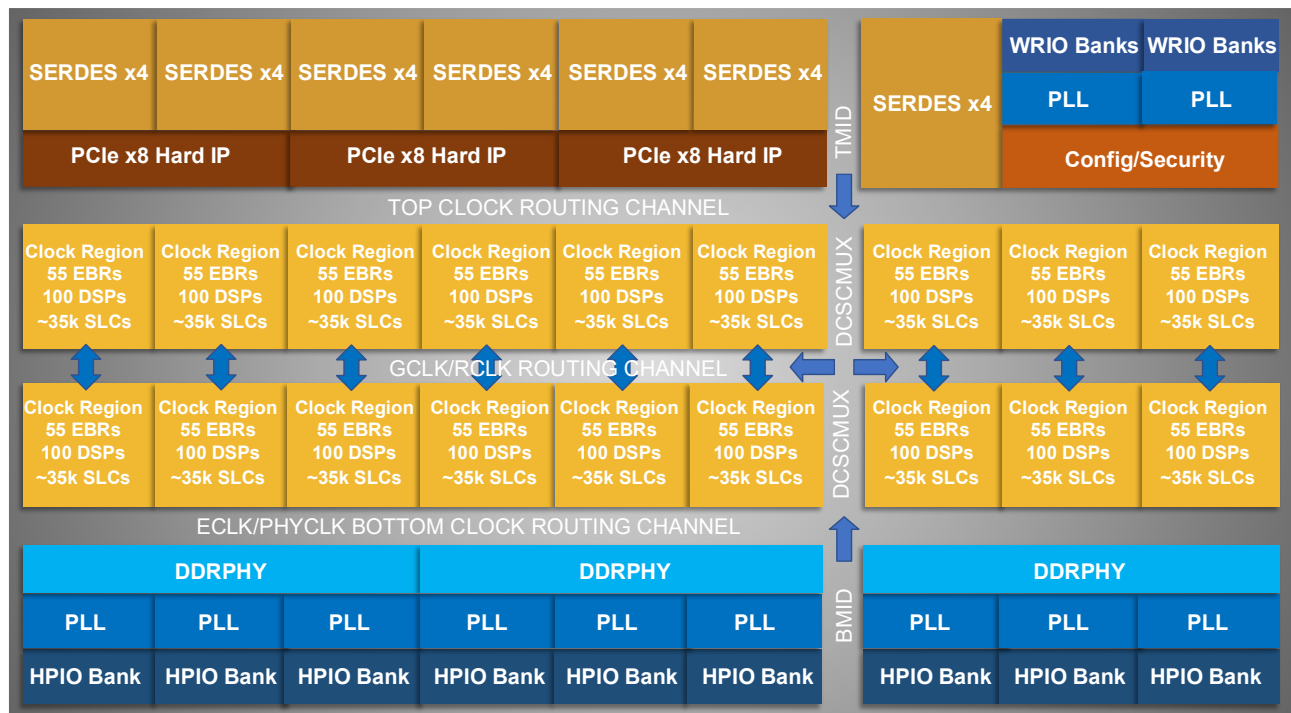

Figure 2.4. High-Level View of Clock Networks and Elements (LAV-AT-E/G/X70 Devices)
- CENTERMUX — The DCSCMUX (Dynamic Clock Selector Center Multiplexer) takes the GCLK Feedlines, the fabric clocks from the FPGA core to generate two sets of 24 GCLKs. A set of four DCS blocks reside within the DCSCMUX. The generated GCLKs can be sourced from the clocks coming out of the DCS blocks. See Figure 2.4.